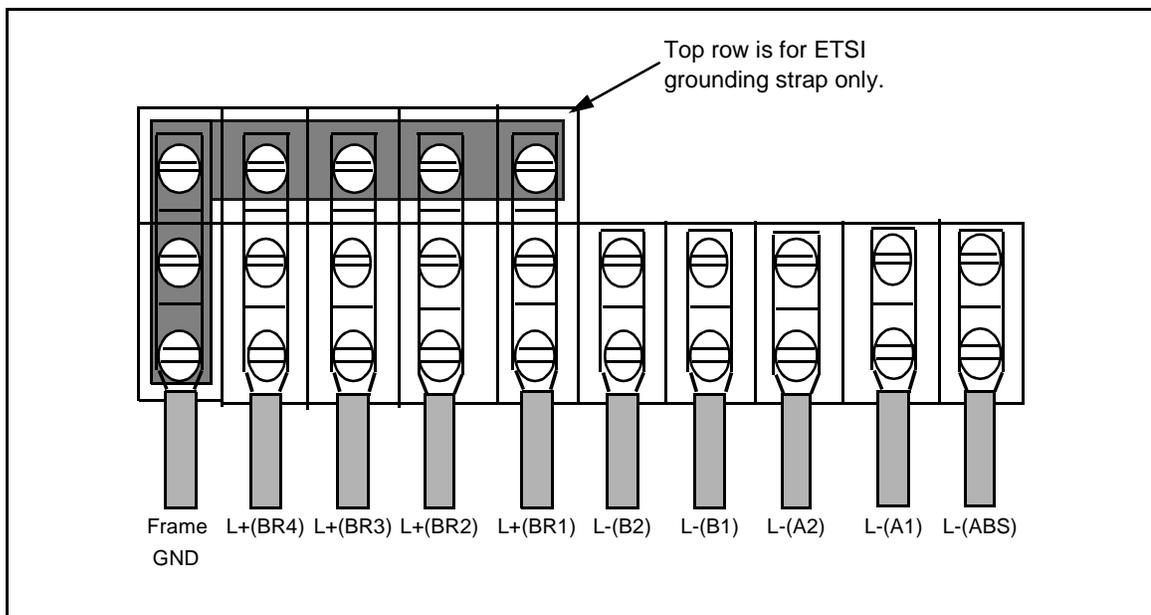

Figure 2.6 - Battery Return to Frame Ground Bonding L-Bracket
4. Attach L-bracket to BR lugs and FG strap as shown in Figure 2.6 on PI unit.